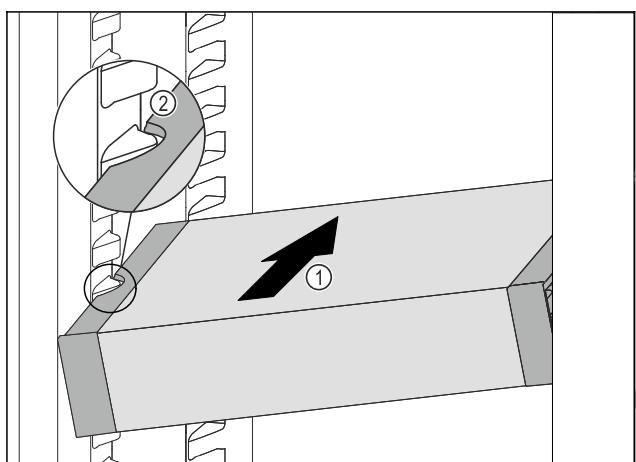

Fig. 104
- ▶ Insert the VarioSafe into the fridge section at an angle Fig. 104 (1) until the recesses in the side Fig. 104 (2) of the VarioSafe are at the level of the support rib in the fridge section.